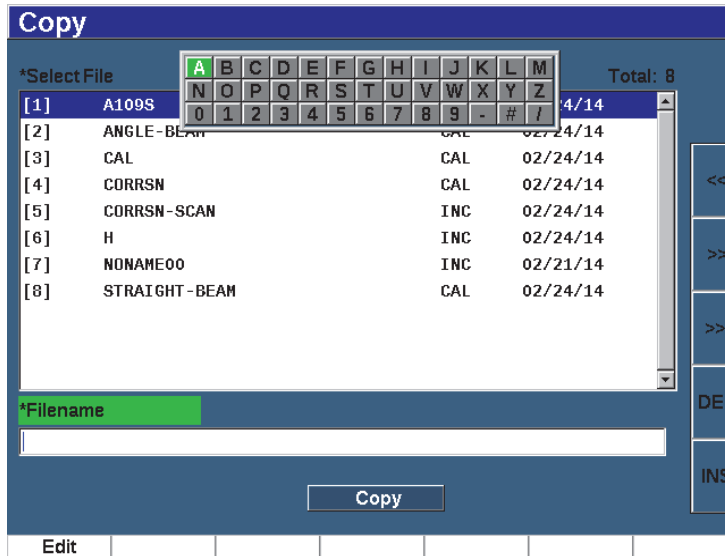

Figure 10-23 The Copy setup menu
1. Choose **Manage > Copy** (group 5/5) to display the Copy page (see Figure 10-23 on page 227).